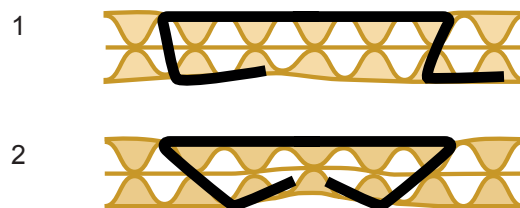

Fig. 13
Each bottom stapler is tested carefully before delivery. Following rough treatment during transport a screw may become loosened and the anvil may therefore have to be adjusted. Incorrect stapling may occur (Fig. 13/1).
- Make a test stapling in a piece of cardboard. If the anvil is correctly adjusted, the clinch should be as shown in (Fig. 13/2).